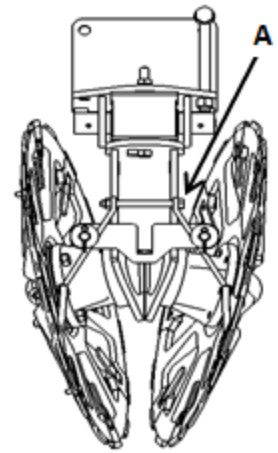

Figure 7-13: Top Scrapers
Adjust bolt (A), shown in Figure 7-13, to move scrapers out to the lifter wheels.